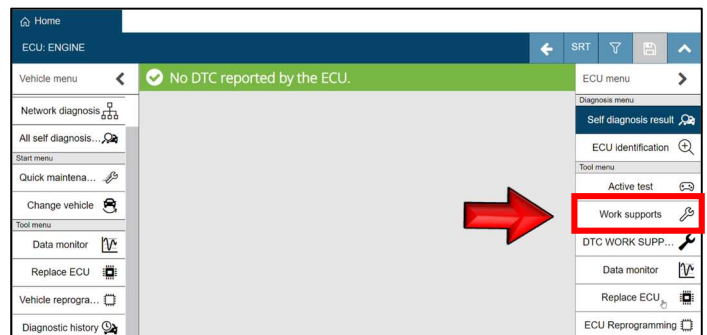

Figure 24
25. Select **Work support**. (Figure 24)